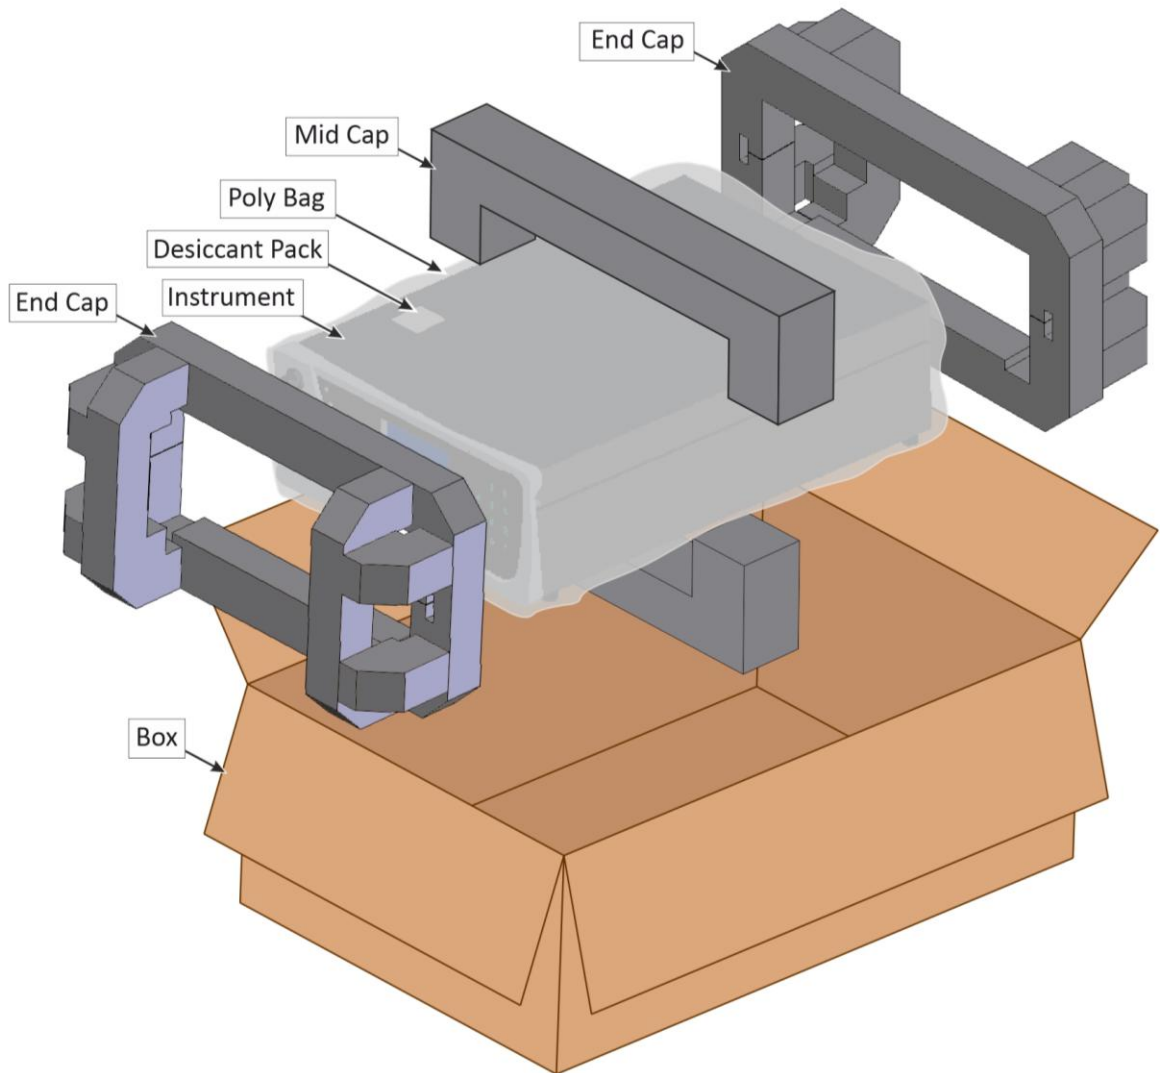

Figure 28 – Packing Instruction
9. Refer to Figure 28. Place the instrument back into the original foam and box it was delivered in. If this is no longer available find some equivalent packaging that provides protection from damage.